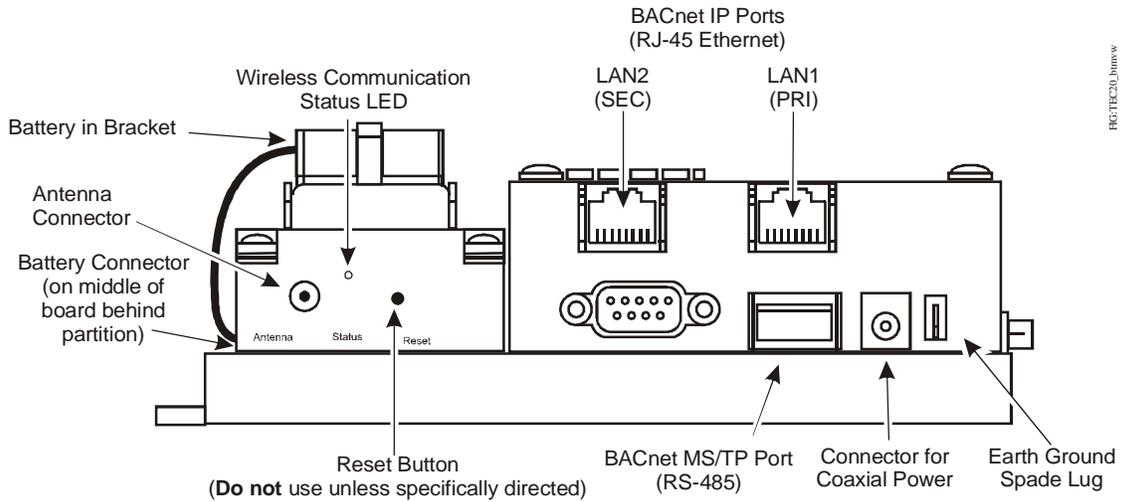

**Figure 10: TEC20 Coordinator (Cover Removed)**
2. Remove the cover of the TEC20 Coordinator and connect the backup battery to the battery connector on the bottom of the circuit board. See Figure 10.
- Apply power to the TEC20 Coordinator and check the diagnostic LEDs. The STATUS (see Figure 10) and Wireless Communication Status LEDs light. After the TEC20 Coordinator finishes its self-test sequence (up to 2 minutes), the BEAT LED blinks approximately once per second.